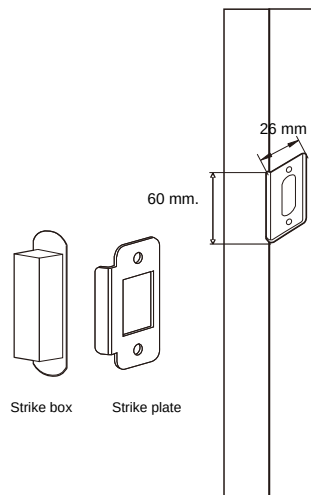
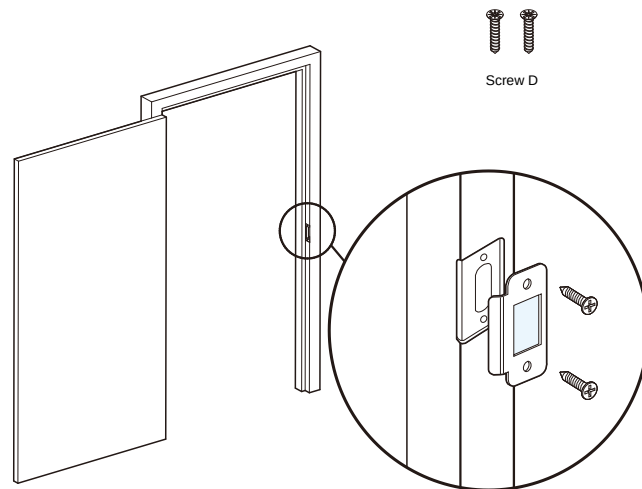

Fig. 2
Fig. 3
1. As shown in Fig. 2 and Fig. 3, drill the hole for installing the strike box. The strike box hole depth must be 15 mm and the length 60 mm
2. Install the strike plate as shown in Fig. 2. The width is 26 mm and the length is 60 mm.
3. As shown in Fig. 3, place the strike box into the hole, cover it with the strike plate, and tighten with screw D.